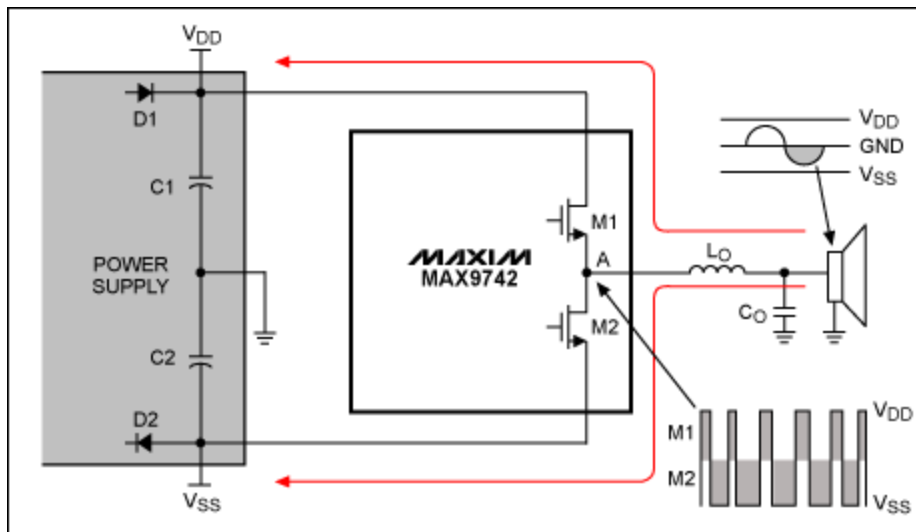
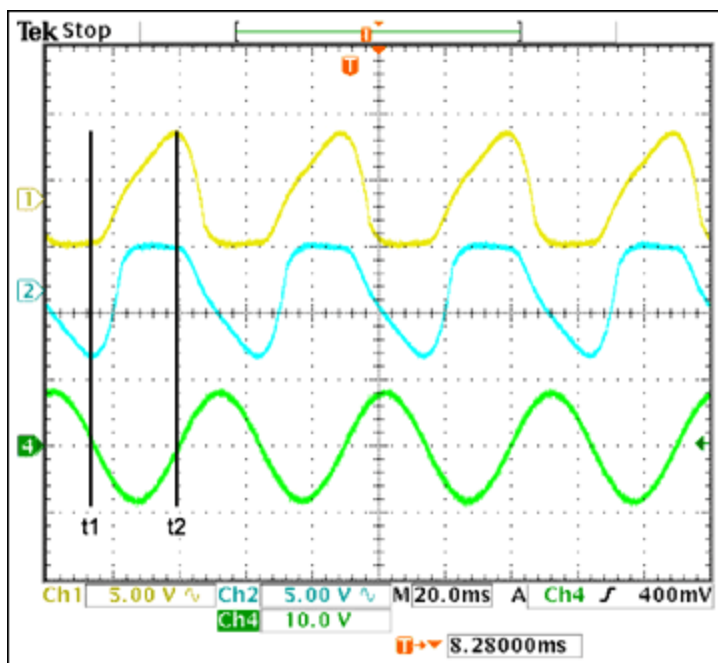

Figure 1. Illustration of the current flow into the outputs during the negative cycle of the sinewave.
Figure 2. Illustration of the effects of power-supply pumping. The time from  $t_1$  to  $t_2$  represents the negative half cycle of the output waveform.
**Figure 1** shows a typical power supply connected to the MAX9742. When the output at the speaker swings below ground for the negative cycle of the sinewave, current flows into the output through the paths shown by the arrows. Since the MAX9742 is a Class D amplifier, the output at node A swings from  $V_{DD}$  to  $V_{SS}$ . MOSFET M1 turns on to pull the voltage of node A up to  $V_{DD}$ , and MOSFET M2 turns on to
Figure 2 shows the power-supply waveform and speaker-output waveform that would occur during power-supply pumping. The waveform from  $t_1$  to  $t_2$  represents the negative half cycle, which is similar to the current direction in Figure 1. It can be seen that  $V_{DD}$  (Channel 1 in yellow) is pumped to a more positive voltage between  $t_1$  and  $t_2$ . As the output sinewave changes to the positive cycle at  $t_2$ , the increased voltage on  $V_{DD}$  is discharged from C1. At the same time,  $V_{SS}$  (Channel 2 in blue) becomes more negative as charge is dumped into C2 due to the increasing positive output voltage. The cycle will repeat itself when the output waveform begins to swing negative again.
The Figure 2 data are from one of the MAX9742's outputs.  $V_{DD}$  and  $V_{SS}$  were  $\pm 15V$  and  $1000\mu F$  capacitors were placed on both power supplies. The output was loaded with  $4\Omega$  resistors and the input signal was 20Hz.